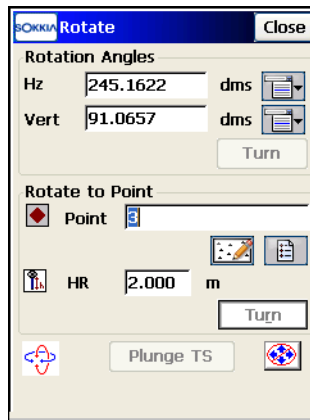

Figure 8-54. Rotate
10. To turn the Total Station, tap the **Turn** button and enter the desired horizontal and vertical angles, or the direction point on the *Rotate* screen. Tap **Turn** in the corresponding field to perform the rotation (Figure 8-54 on page 8-50). Tap **Close** to return to the *Auto Topo* screen.